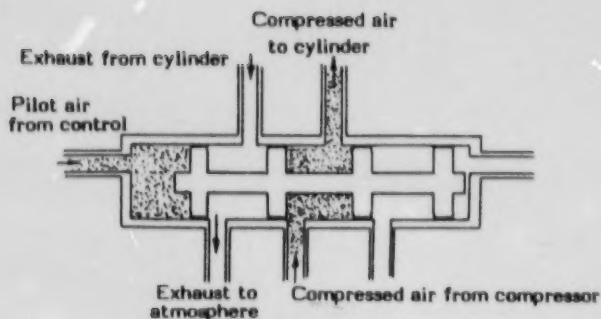
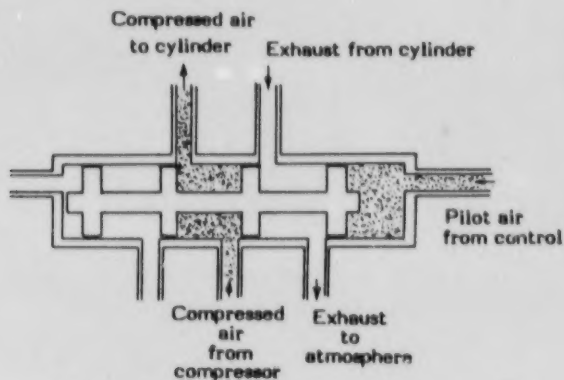
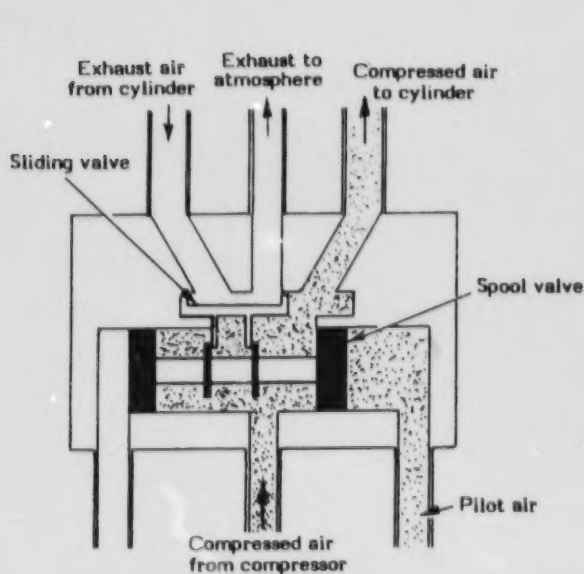
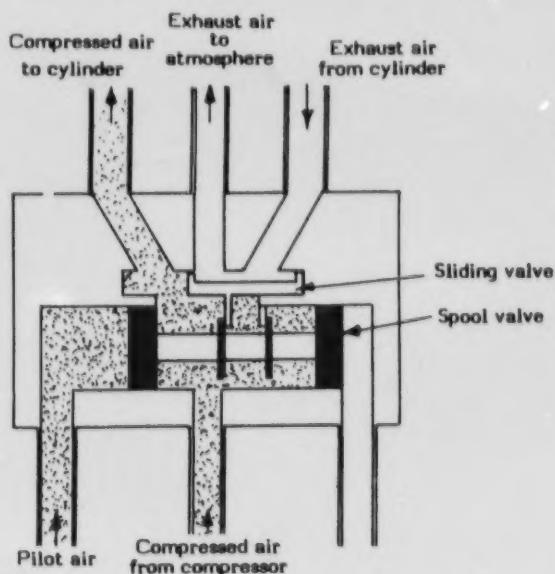

Fig. 9. Pilot air in left chamber moves spool valve to right.
Fig. 10. Pilot air in right chamber moves spool valve to left, reversing operation.
Fig. 11. Pilot air in right chamber moves spool valve and sliding valve to left.
Fig. 12. Pilot air in left chamber moves spool valve and sliding valve to right, reversing operation.
Figure 9 shows a five-ported, four-way, two-position valve. It would control the air to a double-acting piston cylinder. Pilot air from a control directs air to the chamber on the left end of the valve. This moves the valve to the right. Notice that the spool valve is positioned at the end of the housing. In this position, compressed air flows from the compressor through the valve to one side of the double-acting piston. Also, air from the opposite side of the piston is exhausted through the valve and to the atmosphere.
Figure 10 shows the valve as it operates the double-acting piston in the opposite direction. The pilot air on the left side has been released and is directed to the chamber on the right side. This moves the spool valve to the left side of the housing. In this position, compressed air is now directed to the opposite side of the piston from that shown in figure 9. Also, the air that was compressed in figure 9 is now exhausted through the valve and into the atmosphere. This cycle is repeated each time the piston
Figures 11 and 12 show another type of spool valve that serves the same function as the one in figures 9 and 10. This type is easier to seal than the first type since the lands of the spool never have to move across the ports. Movement across the ports tends to wear the seals on the lands.
Figure 11 shows the valve as a control for a double-acting piston cylinder. Pilot air on the right side of the valve moves the spool valve to the left. This also moves the sliding valve to the left. Compressed air flows from the compressor through the valve to one side of the piston. Exhaust air from the opposite side of the piston flows through the sliding valve and is directed through the exhaust vent to the atmosphere.
Figure 12 illustrates the valve as it operates the piston in the opposite direction. Pilot air on the left side of the spool valve moves it to the right. This also moves the sliding valve to the right. Compressed air flows from the compressor through the valve and to the opposite side of the piston than it did in figure 11. Exhaust air from the opposite side of the piston is now directed through the sliding valve and out the exhaust vent to the atmosphere.
17. How do the two working chambers of the valve shown in figures 9 and 10 relate to each other when the valve is moved from one end to the other?
18. Why is the type of spool valve shown in figures 11 and 12 easier to seal than that shown in figures 9 and 10?